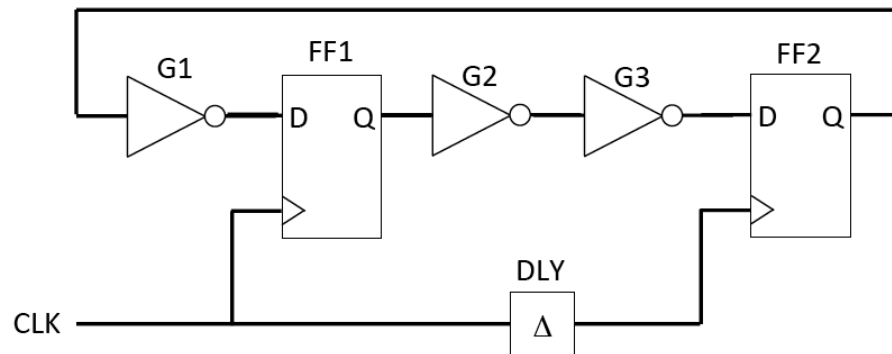

Figure 1.2
- (b) Consider the circuit shown in *Figure 1.2*. The propagation delay t_d of the inverters G1 to G3, and the clock-to-Q delay t_{cq} of the flip-flops FF1 and FF2, are in the range of 0.5ns to 1.0ns. The setup and hold times of the flip-flops FF1 and FF2 are 1.3ns and 1.1ns respectively. The clock to FF2 is driven through a delay element DLY with a delay of t_{dly} .